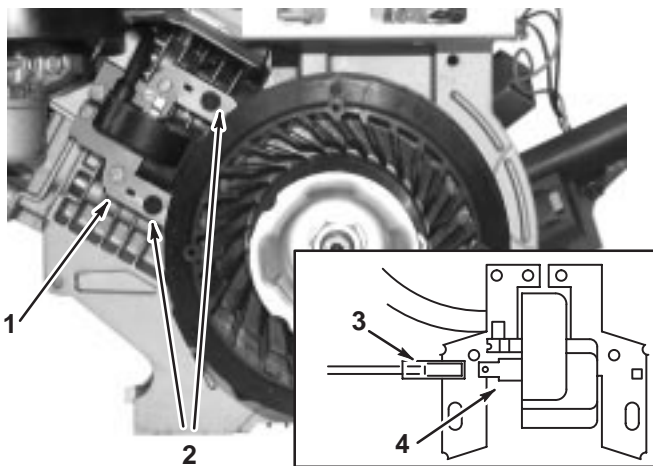

Fig. 12 – Removing Ignition Armature
2. Remove armature screws, disconnect stop wire, and lift off armature, Fig. 12.
1. Install stop switch wire on armature, Fig. 12, Page 15.